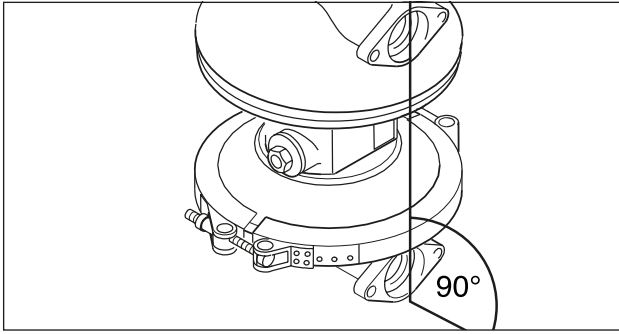
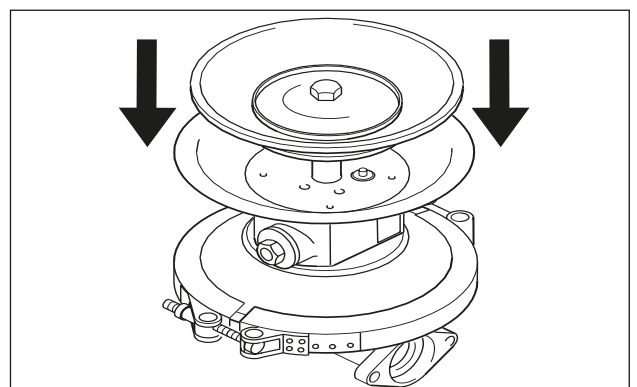

Fig. 17: Alignment of pump chambers
Fig. 16: Assembly of second pump chamber
- Assembly of the pump chamber: Assembly of diaphragm, fixation by fastening the outer diaphragm plate acc. to page 42 ff "Tightening torques". The pump chambers must generally be assembled with the diaphragm in suction position (Press diaphragm plate into air chamber) (Fig. 16). Fasten clamp band or mounting flange. Assemble the second diaphragm in the same way. The flange face of the pump housing must be in line (Fig. 17).